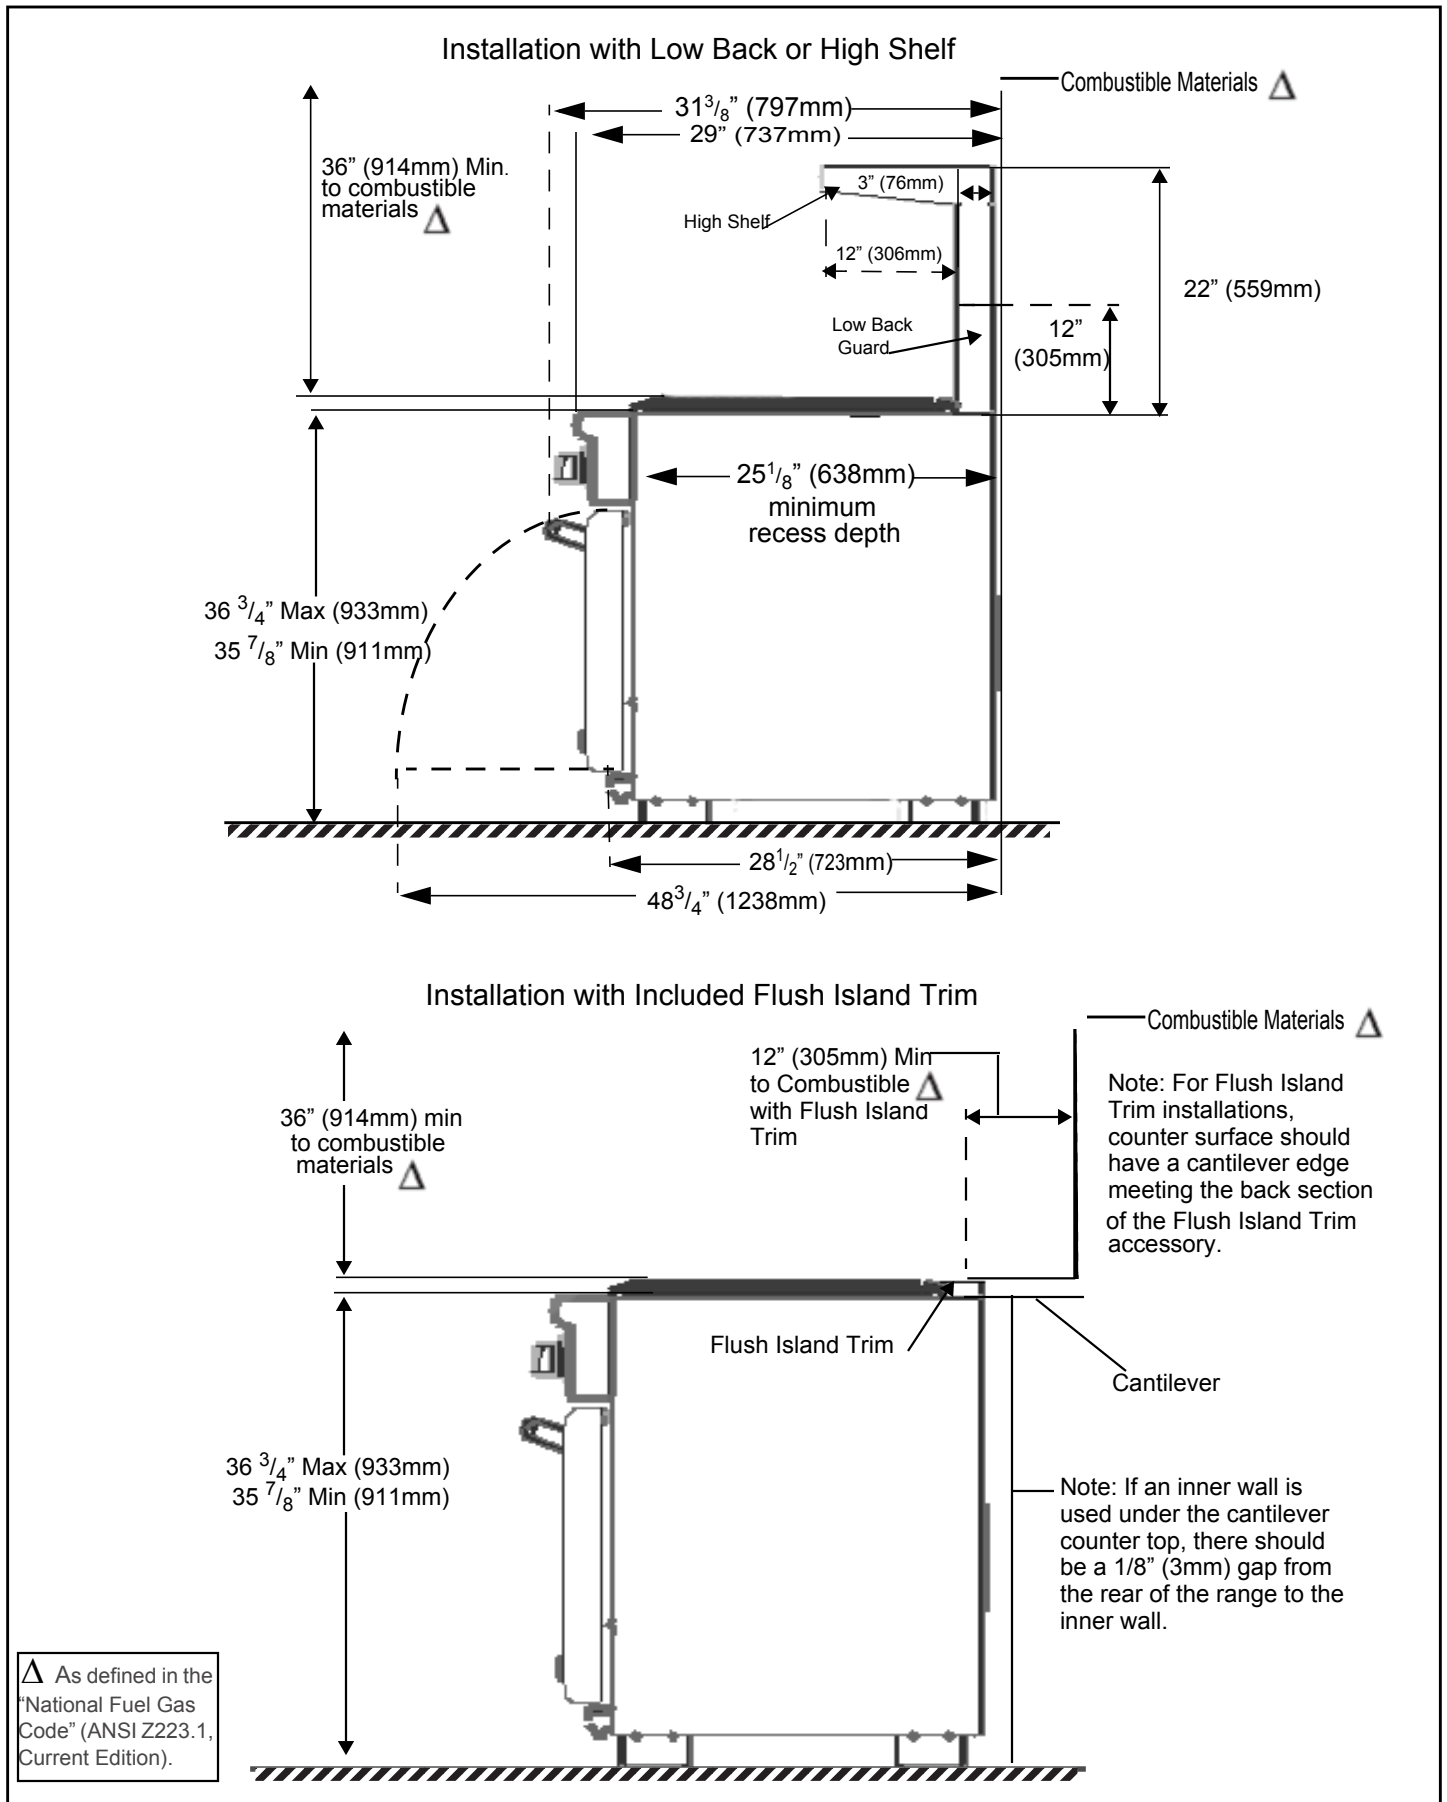

FIGURE 2: SIDE VIEW OF CLEARANCES
For island installations and other installations with more than 12” (305mm) minimum horizontal clearance between combustible materials and the back edge of the range, a Flush Island Trim has been supplied with the range (refer to “Figure 2: Side View Of Clearances” on page 6). A THERMADOR® Low Back or High Shelf must be purchased separately and utilized when there is less than a 12” (305mm) horizontal clearance.
- When there is less than a 12" (305mm) horizontal clearance between combustible material Δ and the back edge of the range above the cooking surface, a THERMADOR® Low Back or High Shelf must be installed (see Figure 2, page 6). When clearance to combustible material Δ is over 12" (305mm), the supplied THERMADOR® Flush Island Trim may be used. Figure 2 indicates the space required for each type of backguard.